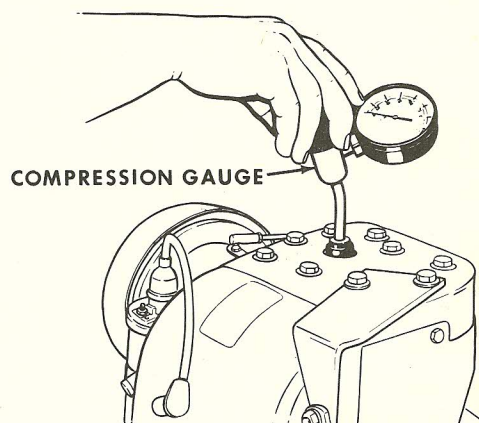

Figure M-1
4. With the speed control lever in neutral or brake position, use a compression gauge similar to that shown in figure M-1.